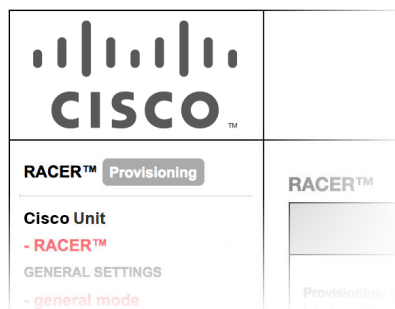

Figure 16. FM Racer status icon (Provisioning Mode)
- Check that the unit is in Provisioning Mode by looking at the colored icon to the right of the **RACER™** tag in the upper left-hand corner of the screen (Figure 16 \(page 51\)).